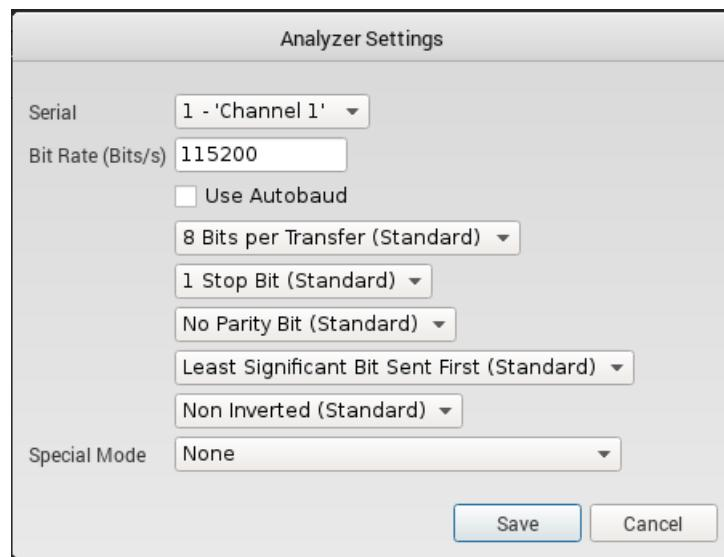

Figure 7.3: Analyser Settings - note that the baud rates are free-form text.
**Run the Analyzer** Now we are ready to analyse the signal we have. On the right of the main screen in Logic you will see a small box for 'analyzers'. Click the cog icon, and you will see the analyser setting screen, as per Figure 7.3. This will then allow you to load an analysis of the signal for different baud rates and settings. Nominally, all UART systems in the wild that you will encounter will tend to use 8N1 as the data settings (see the UART protocol description for more details about that). As such, our only task is to work out what the baud rate is.